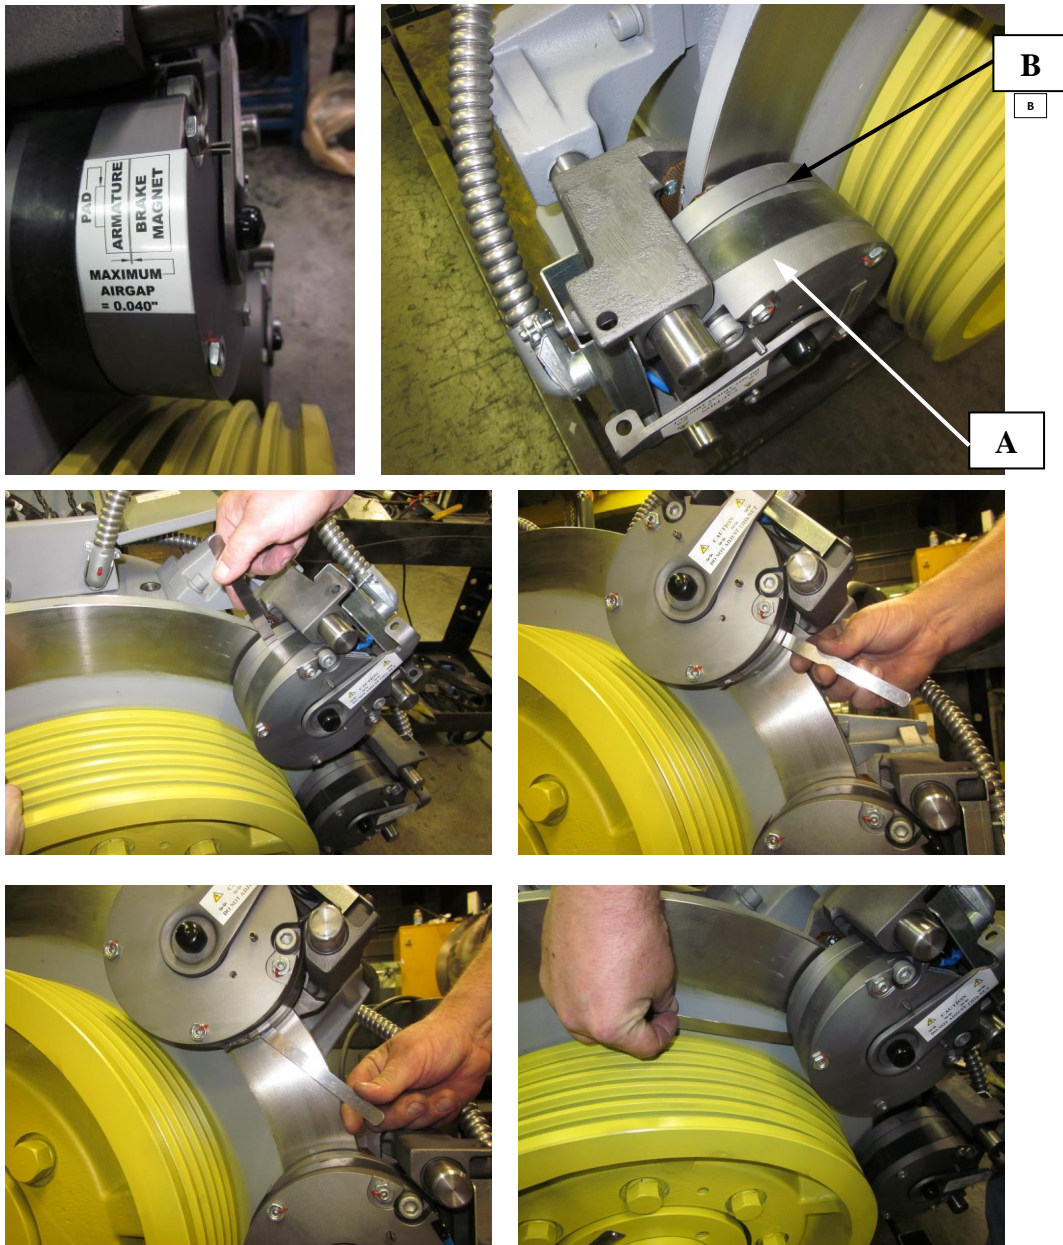

Figure 16
- **IMPORTANT: (Figure 16)** With Brake de-energized - move rubber dust shield “A” to expose Air Gap “B”. See Figures 21 below. Air Gap at “B” should be less than .040”. If air gap measures greater than .040”, consult Hollister-Whitney